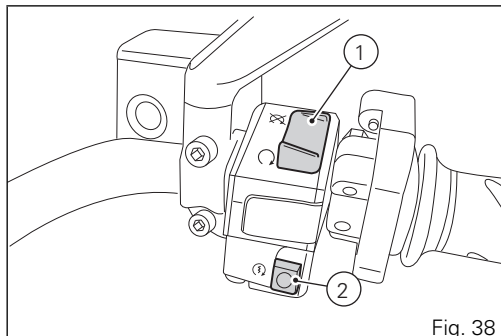

Fig. 38
- 1) if the code is recognised, the immobilizer enables engine ignition. Press the START button(2, Fig. 38) to start the engine;